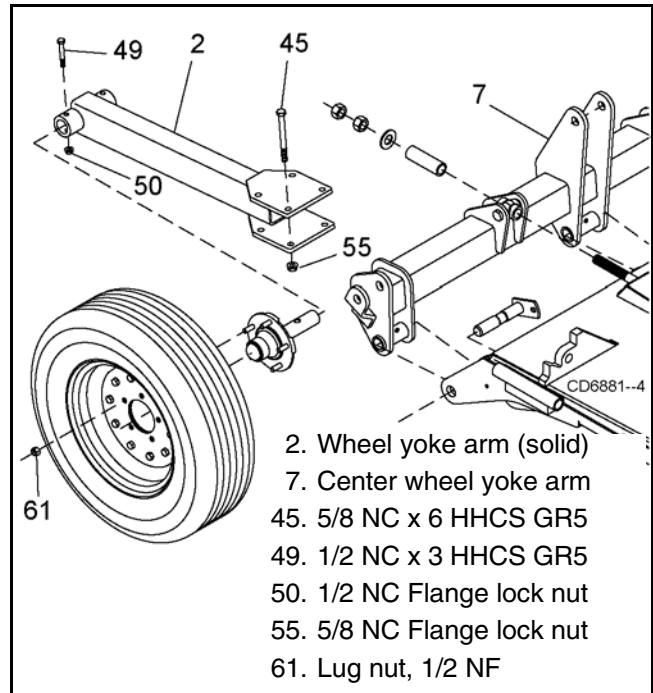

Figure 27. Wheel Yoke Arm & Tire Installation (Right Side Shown)
1. Attach wheel yoke arms (2) to rear of wheel yoke tube (7) as shown in Figure 27 using four bolts (45) and nuts (55).
2. Insert wheel hubs into each wheel yoke arm (2) and align holes.
3. Secure into position using cap screw (49) and flanged lock nut (50). Repeat for additional hubs.
4. Attach wheel to hub using five lug nuts (61). Install the chamfered side of the lug nut toward the inside